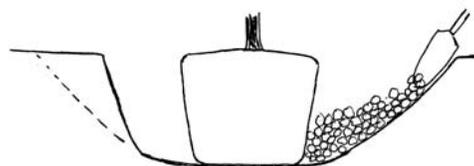

Figure 15. Planting hole widened into saucer-shape during back fill process.
- Another time-saving technique is to dig the hole twice the root ball width with more vertical sides. Place the tree in the hole, pack base, remove wrappings, and check for girdling roots. Then with a shovel cut the sides of the planting hole to form the saucer-shape planting hole three times the root ball diameter. With this technique part of the backfill soil does not have to be removed and shoveled back, but simply allowed to fall into the hole. Soil “peds” (dirt clods) up to the size of a small fist are acceptable. With this technique it is not practical to mix in soil amendments, as amendments must be thoroughly mixed through the backfill soil. [Figure 15]